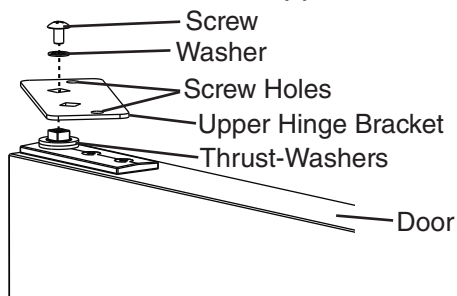

Fig. 14
- 9) Make sure the thrust-washers are in place on the spring cartridge, then install the upper hinge bracket onto the spring cartridge. See Fig. 14. The upper hinge bracket should be canted out towards the center as shown with the screw holes towards the back of the appliance.